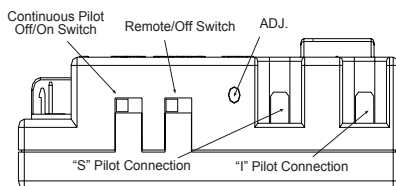

Figure 37 - Gas Module Right Side
1. There is a switch located on the right side of the module that reads CONTINUOUS PILOT ON/OFF. This switch selects the pilot's mode of operation (Figure 37).